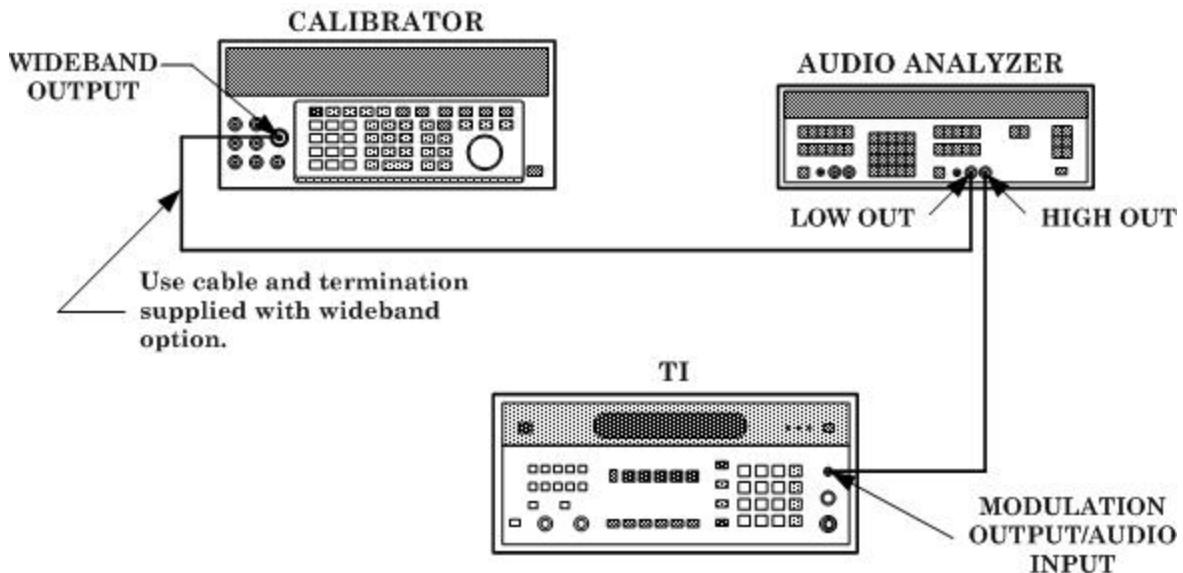

Figure 14. Audio measurement setup.
(15) Change calibrator output level to 3 V.
(16) Slowly step the calibrator output frequency down to 380 Hz in 2 Hz steps while observing the TI distortion indications at each step. If TI indication is not $\leq 0.3\%$, perform **b** below.
(17) Press TI keys as listed in (a) and (b) below:
(18) Set calibrator output to a frequency of 950 Hz at a level of 3 V.
(19) Slowly step the calibrator output frequency up to 1050 Hz in 5 Hz steps while observing the TI distortion indications at each step. If TI indication is not $\leq 0.3\%$, perform **b** below.
(20) Change calibrator output level to 100 mV.
(21) Slowly step the calibrator output frequency down to 950 Hz in 5 Hz steps while observing the TI distortion indications at each step. If TI indication is not $\leq 0.3\%$, perform **b** below.
(22) Press audio analyzer **OUTPUT, FLOAT** key.
(23) Connect equipment as shown in figure 14.
(24) Set audio analyzer source output to 1 kHz at a level of 3 V.